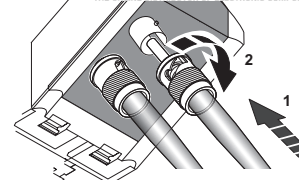

Figure 12 B-FOC connection
- Secure the connection with a quarter t (see 2 in Figure 12).